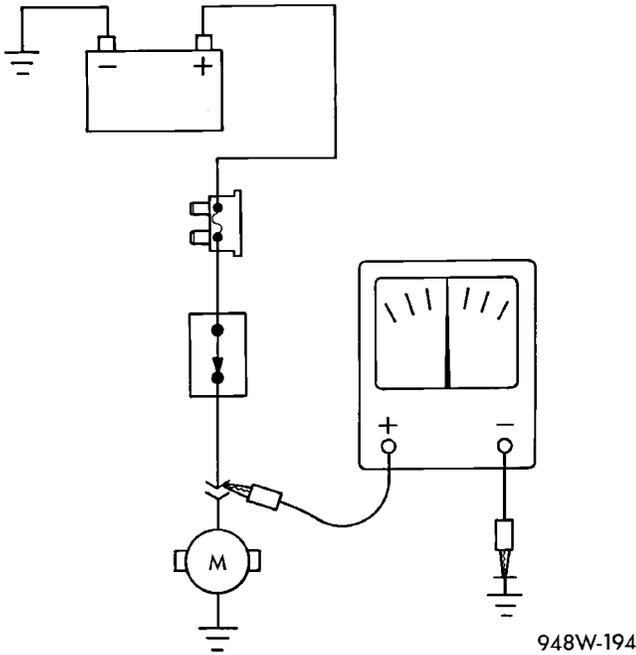

Fig. 7 TESTING FOR VOLTAGE POTENTIAL
- (1) Connect the ground lead of a voltmeter to a known good ground (Fig. 7).
- (2) Connect the other lead of the voltmeter to the selected test point. The vehicle ignition may need to be turned ON to check voltage. Refer to the appropriate test procedure.